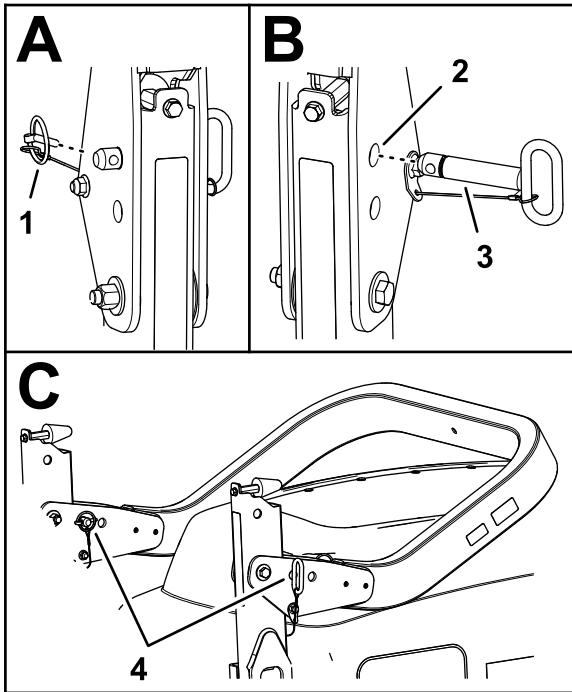

Figure 62
2. Remove the lynch pins that secure the roll-bar pins at each side of the roll bar (Figure 62).